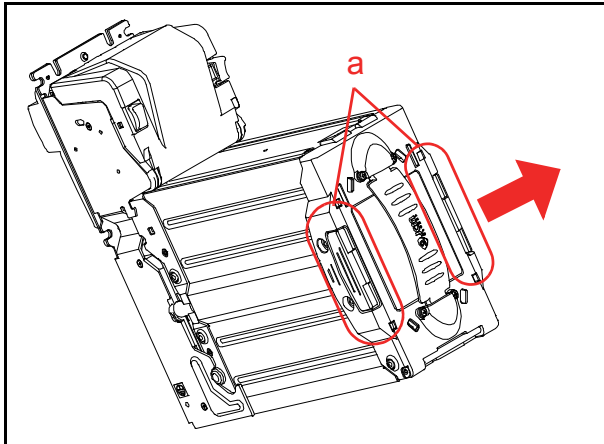

Figure 17 Retrieving Banknotes 1
1. Press the Cash Box Latches (Figure 17 a) located on both sides of the Cash Box and pull the Cash Box out in the direction indicated by the Red arrow.